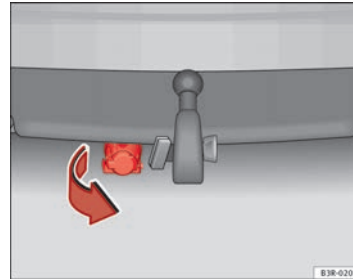

Fig. 161 Rear bumper: Pulling down the power socket
- To plug in the electrical connection for the trailer, pull down the socket below the bumper ⇒ Fig. 161.